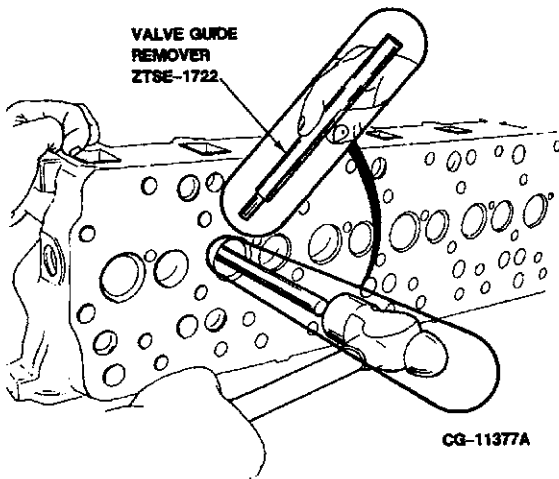

Figure 4.35. Remove Valve Guide
- b. Drive out the valve guide with a hammer. Refer to Figure 4.35.